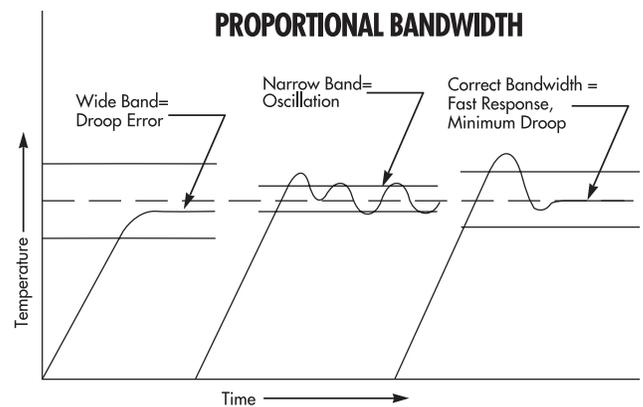

Figure 6.
- b) Bandwidth (Gain). Figure 6. Permits changing the modulating bandwidth to accommodate various process characteristics. High-gain, fast processes require a wide band for good control without oscillation. Low-gain, slow-moving processes can be managed well with narrow band to on-off control. The relationship between gain and bandwidth is expressed inversely: